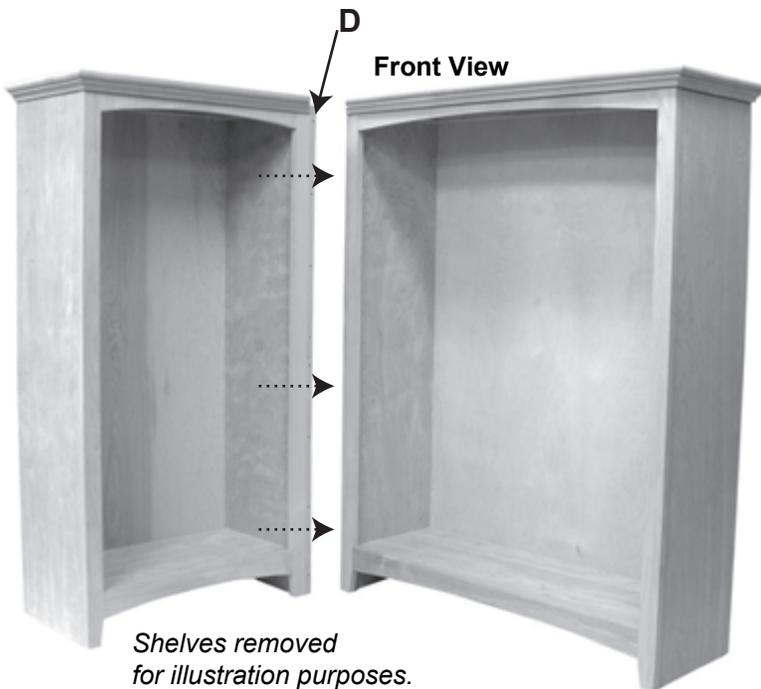

Fig. 1
1. Move the bookcase with the attached Cleat (D) and align the predrilled holes in the cleat with the predrilled holes in the side of the second bookcase. Attach using #8x1-1/4" Pan Head Screws (E). See Figures 1 and 1a.